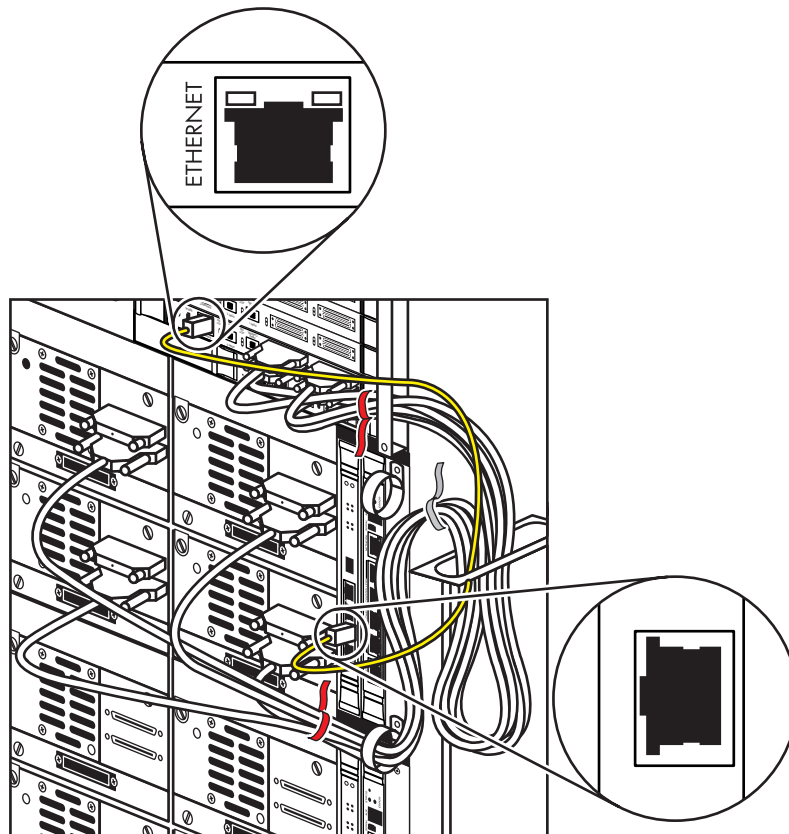

Figure 53: Connecting Ethernet cable to the e2400-160 interface controller
3. Connect the cable to the Ethernet port on the corresponding interface controller (see Figure 53). For example, connect the cluster controller card in drive cluster 0 to the interface controller in slot 0 of the card cage.